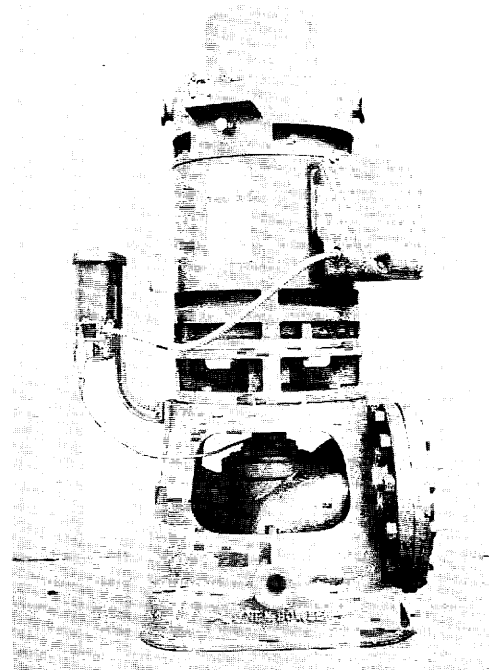

Fig. 33
Connect up lubricating system as illustrated in Fig. 33, using tube item 124-16 and fittings item 124-17. Fill oil reservoir using oil as described earlier. Adjust lubricator valve 124-13 to permit oil to drip at a rate of approximately one drop per second. With solenoid operated lubricators, complete electrical connections to valve. Remove pipe plug at top of tubing connector and fill upper cavity with oil just before first start. This will insure an adequate supply of oil at each bearing for first start.